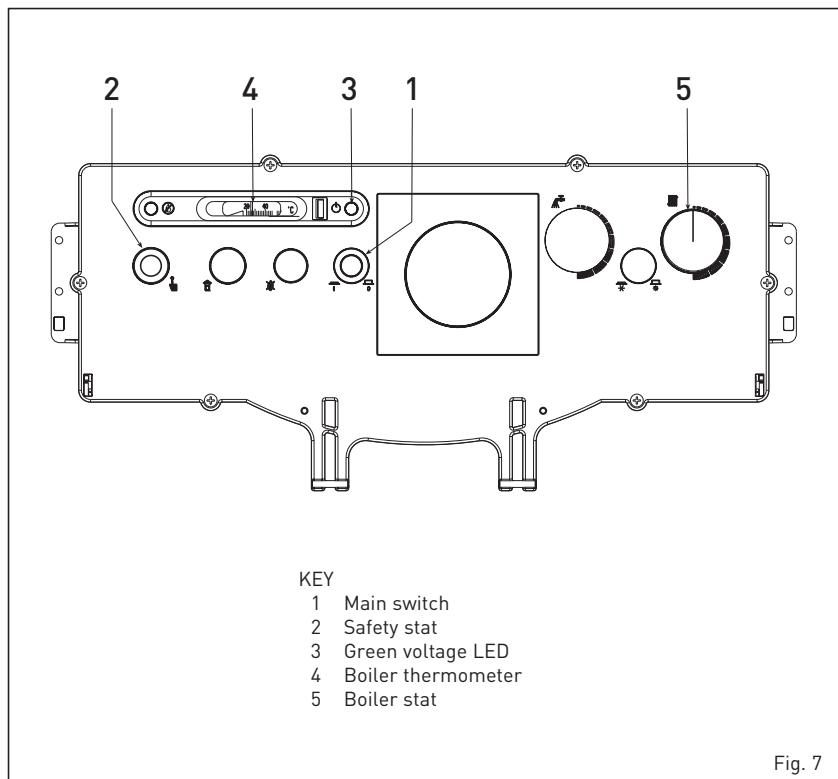

Fig. 7
3.2.1 Lighting the boiler (fig. 7)
- turn the boiler stat knob (5) to a temperature no lower than 60°C. The set temperature value can be checked on the thermometer (4).
- set the temperature of the hot-water service by pressing the thermostat of the boiler unit (6). The set temperature value can be checked on the thermometer (7).
3.2.2 Safety stat (fig. 7)
3.2.4 Turning OFF boiler (fig. 7)